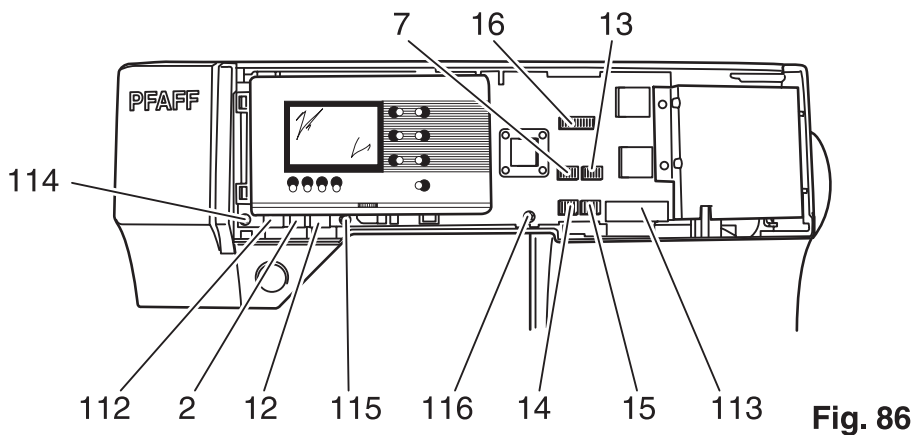

Fig. 86
- Remove connection plugs 2, 7, 12, 13, 14, 15, 16, 112 and 113 from the circuit board (fig. 86).
- Secure the circuit board with screws 114, 115 and 116 (fig. 86).